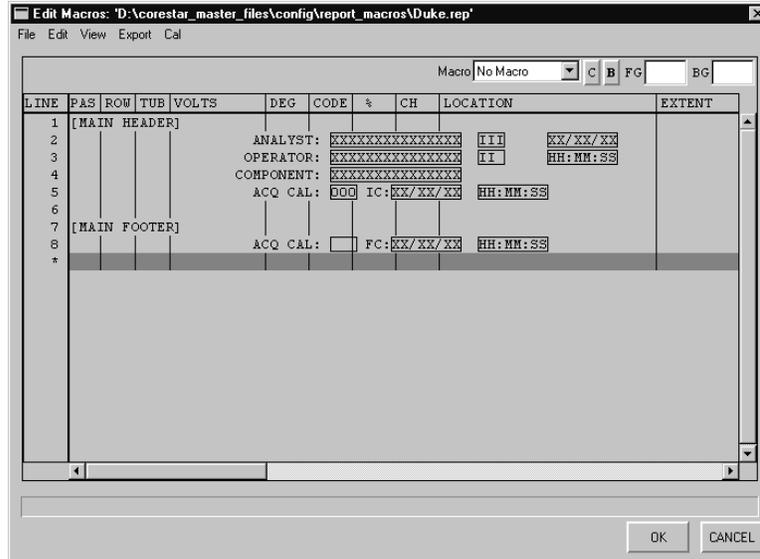
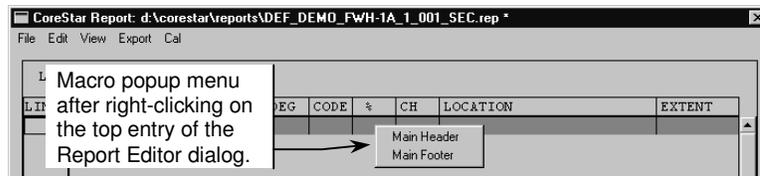
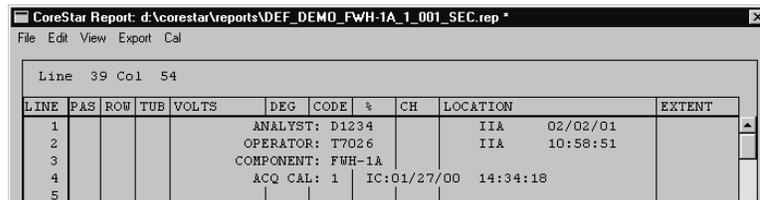

Figure 3-58. Macro Dialog
Figure 3-59. Macro Popup on Report Editor
Figure 3-60. Macro Results after Selecting *Main Header* on Popup
- REPORT > Edit > Macros ...**: Selecting **Macros ...** from the **Edit** menu displays the dialog shown in Figure 3-58. Although this dialog appears similar to the **Report Editor**, its purpose is not the same. This dialog is used to create automated report headers, footers, shift change entries, probe entries, etc. These automated functions are referred to as *macros*. Figure 3-58 shows two (2) example *macros*, one named *MAIN HEADER* and the other named *MAIN FOOTER*. As shown in Figure 3-59, these names appear on a popup menu in the main **Report Editor** (and in the on-screen report) when a **right-click** is executed. Selecting either one from the popup will automatically insert the information specified for that *macro* as shown in Figure 3-60.